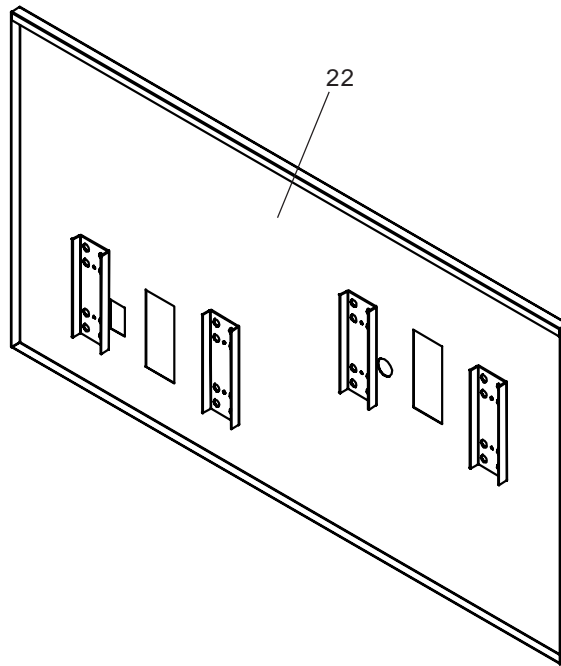

FIG. 12
**Ftn. w/MPW Mounting Plate:** Refer to Fig. 12 for placement of braces onto back panel. Place the upper edge of the panel above hanger bracket. Slide the panel down until it engages the hanger bracket. Be sure back panel is firmly engaged before releasing it.
**Ftn. w/Back Panel:** Install the fountain to the back panel and wall using (4) 5/16" x 2.00" long lag bolts and washers (NOT PROVIDED).
**Ftn. w/MPW Mounting Plate:** Install the fountain to the back panel and wall using (4) 5/16 " x 6" long threaded rods, washers, and nuts (provided). Tighten securely.
**Ftn. w/Wall Plate Assy.:** Install the fountain to the back panel and wall using (4) 5/16" x 3/4" long bolts and washers (provided) thru holes in back panel. Tighten securely.